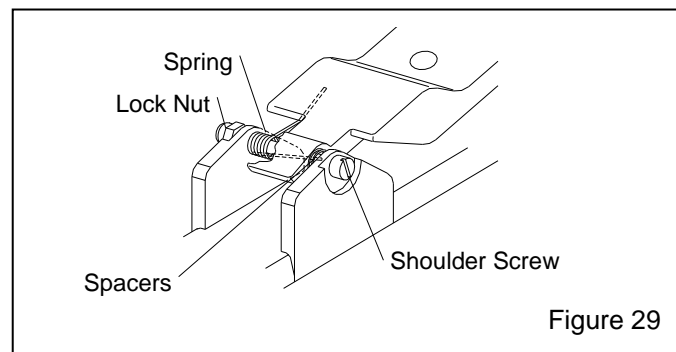

Figure 29
### 6.8.3 Handle lever replacement, Figure 29
**6.8.3.1** Remove the lock nut from the shoulder screw. Before removing the screw, note the positions of the spacers and spring as shown in Figure 29. The bent end of the spring is against the handle lever, facing up. The straight end is against the body, facing down.